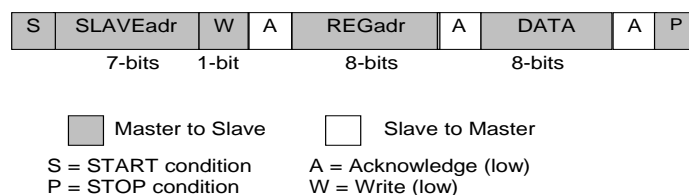
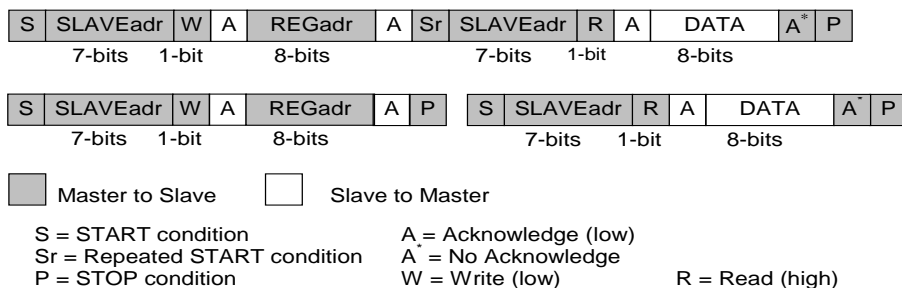

Figure 10: I²C Byte Write (SDA Line)
Figure 11: I²C Byte Read (SDA Line) Examples
The I²C bus is monitored for a valid slave address whenever the interface is enabled. It responds immediately when it receives its own slave address. The acknowledge is done by pulling the SDA line low during the following clock cycle (white blocks marked with A in Figure 10 and Figure 11).
The protocol for a register write from master to slave consists of a START condition, a slave address with read/write bit, and the eight-bit register address followed by eight bits of data, terminated by a STOP condition. DA9141-A responds to all bytes with acknowledge (A), see Figure 10.
When the host reads data from a register it first has to write to DA9141-A with the target register address and then read from DA9141-A with a repeated START, or alternatively a second START, condition. After receiving the data, the host sends no acknowledge (A*) and terminates the transmission with a STOP condition, see Figure 11.